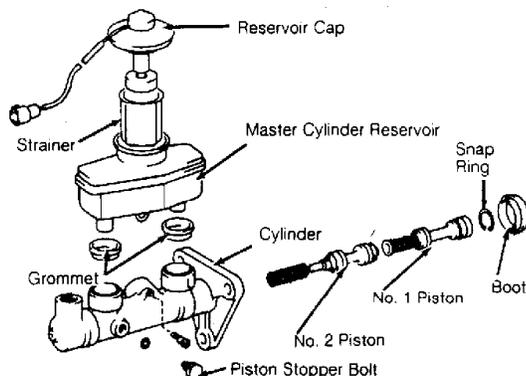

Fig. 9: Exploded View of Typical Master Cylinder Assembly
1) Remove reservoir, hose and switch. Mount cylinder in soft-jawed vise. Push pistons into cylinder bore and remove stop bolt. Remove snap ring and withdraw piston assemblies. Disassemble piston assemblies by removing springs, retainers and cups. See Fig. 9.